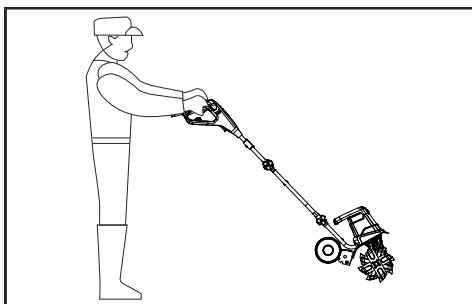

Fig. 10
3. Always maintain a firm grip on the product. For better guidance apply light pressure to the handles (1) (Fig. 10).